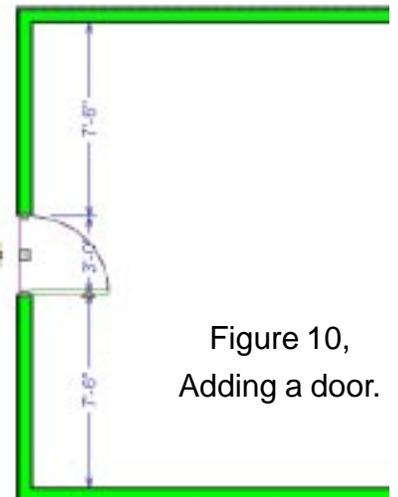

Figure 10,
38. Position the cursor near the center of the left vertical wall. Then click the *left* mouse button once. Figure 10 shows the door after it has been selected using the **Select Objects tool**.